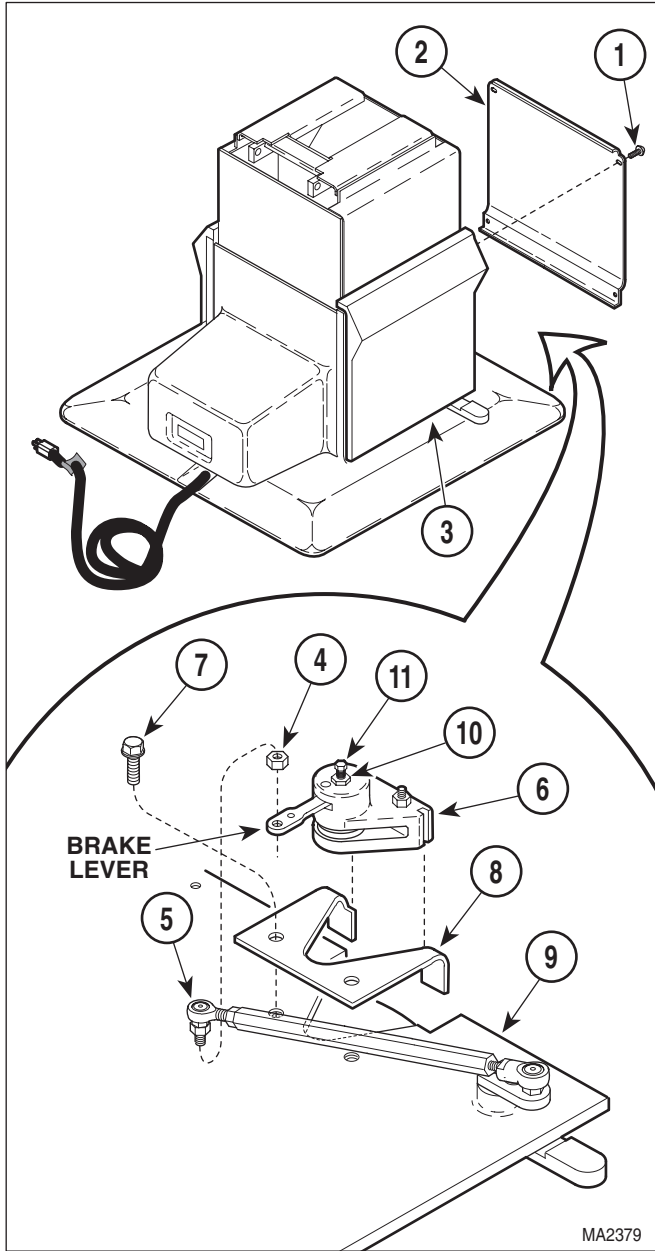

Figure 4-40. Brake Removal / Installation
- (1) Raise TABLE UP function all the way up.
- (2) Unplug table power cord from outlet.
- (3) Remove four screws (1, Figure 4-40) and front outer shroud (2) from left and right hand outer shrouds (3).
- (4) Loosen nut (4).
- (5) Unscrew rod end (5) from brake lever of brake (6).
- (6) Remove two screws (7). Then remove brake (6) and bracket (8) as an assembly from platform base weldment (9).
- (7) Remove brake (6) from bracket (8).